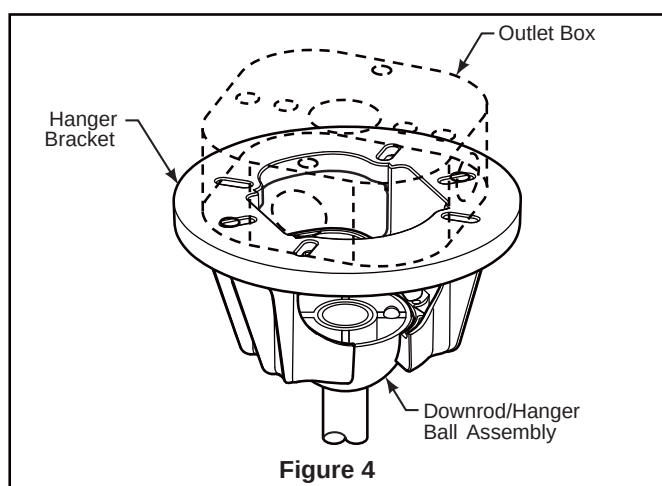

Figure 4
3. Carefully lift the fan and seat the downrod/hanger ball assembly on the hanger bracket that was just attached to the outlet box (Figure 4). Be sure the groove in the ball is lined up with tab on the hanger bracket (Figure 3).